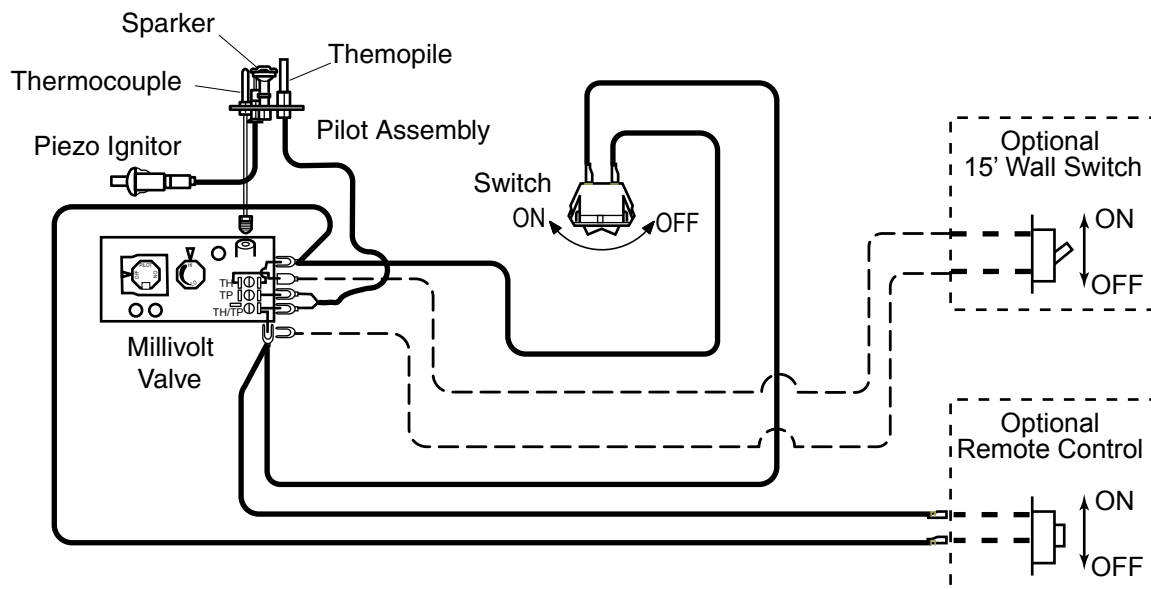

Figure 17 - Wiring Diagram for Wall Switch
A remote wall switch and up to fifteen (15) feet of 18 Ga. wire may be used with this appliance. Attach the wall switch in a junction box at the desired location on the wall. *See Figure 17.*